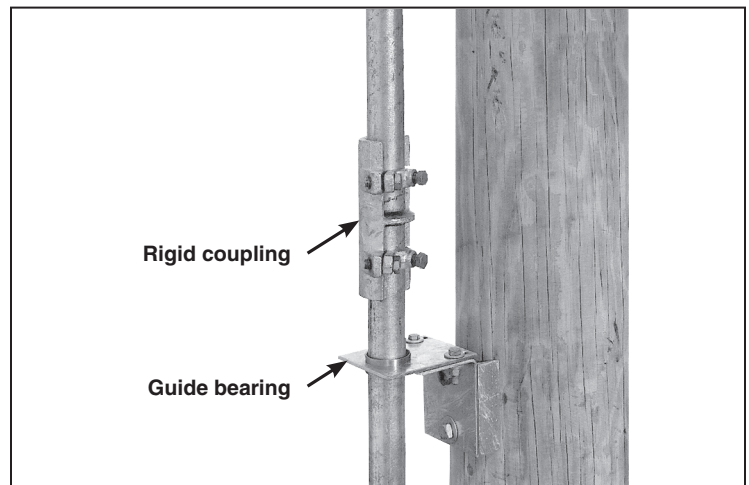

Figure 19. Install the guide-bearing assembly for additional pipe section.
STEP 17. Install a guide-bearing assembly with each additional vertical operating-pipe section, positioned in accordance with the dimension shown on the erection drawing. See Figure 19. Use rigid couplings to join these additional pipe sections. Before installing the coupling, back the piercing set screws out of the coupling body so they do not protrude into the coupling.